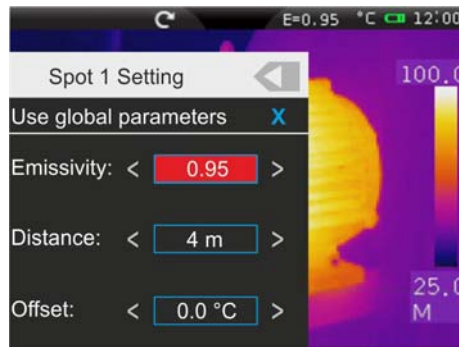

Fig. 23: Setting the parameters associated with the cursors
8. With the previous option deactivated (see Fig. 23) it is possible to associate values of parameters “Emissivity”, “Distance” and “Offset” different from the global ones to the cursor. To this purpose, touch the field of the parameter highlighted in red and the symbols “<” and “>” to decrease or increase the value. Keep the keys pressed for a quick selection of the values, The measuring ranges are the following:
7. With the previous option deactivated (see Fig. 23) it is possible to associate values of parameters “Emissivity”, “Distance” and “Offset” different from the global ones to the line. To this purpose, touch the field of the parameter highlighted in red and the symbols “<” and “>” to decrease or increase the value. Keep the keys pressed for a quick selection of the values, The measuring ranges are the following:
6. With the previous option deactivated (see Fig. 23) it is possible to associate values of parameters “Emissivity”, “Distance” and “Offset” different from the global ones to the area. To this purpose, touch the field of the parameter highlighted in red and the symbols “<” and “>” to decrease or increase the value. Keep the keys pressed for a quick selection of the values, The measuring ranges are the following: